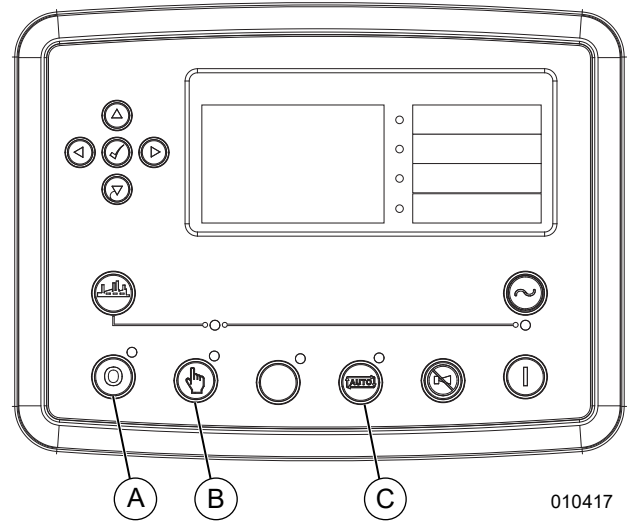

Figure 3-9. Mode Buttons
3. See Figure 3-9. Press the desired Mode button. The controller mode immediately changes, and the corresponding LED illuminates.